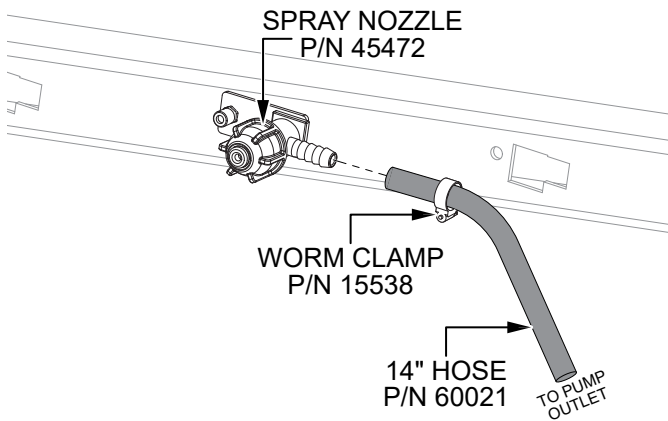

Figure 9. Connect Spray Nozzle Hose
- Use a worm clamp (P/N 15538) to secure the opposite end of the 14-inch hose (P/N 60021) to the spray nozzle (P/N 45472). See Figure 9.